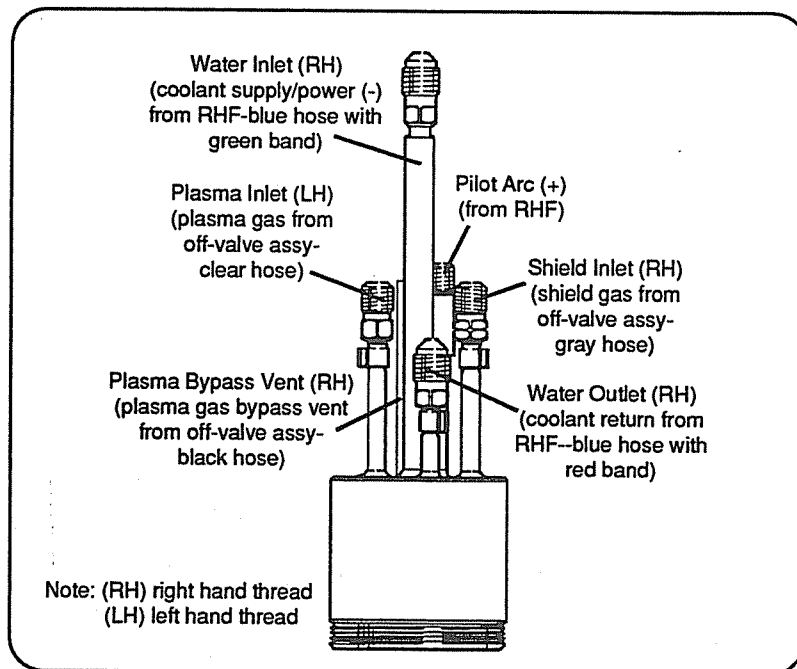

Figure 3 Straight Quick Disconnect Connections
4. Reconnect hose and pilot arc lead fittings, removed in step 3, on to straight quick disconnect. Always use two wrenches to tighten fittings and do not turn fittings on torch end. Fig. 3